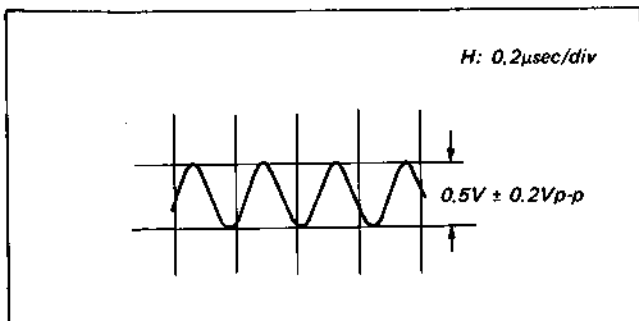

Fig. 4-30. Output level check
- (1) Set up the PLAY mode.
- (2) Connect the frequency counter to TP23 (emitter of Q34).
- (3) Adjust T6 for an oscillating frequency of  $4.433619 \text{ MHz} \pm 5 \text{ Hz}$ .
- (4) Check that the output level is  $0.5V \pm 0.2 V_{p-p}$  (See Fig. 4-30).